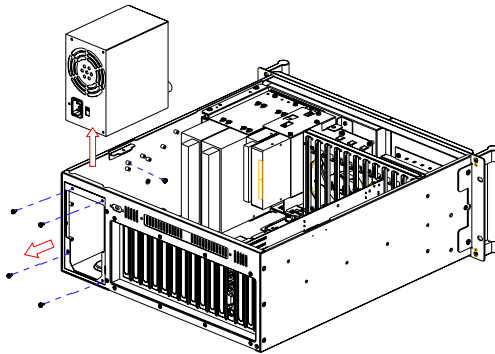

Figure 3.7: Replacing the single power supply
4. Loosen the six screws on the power supply bracket and then gently pull it up (see *Figure 3.7*).